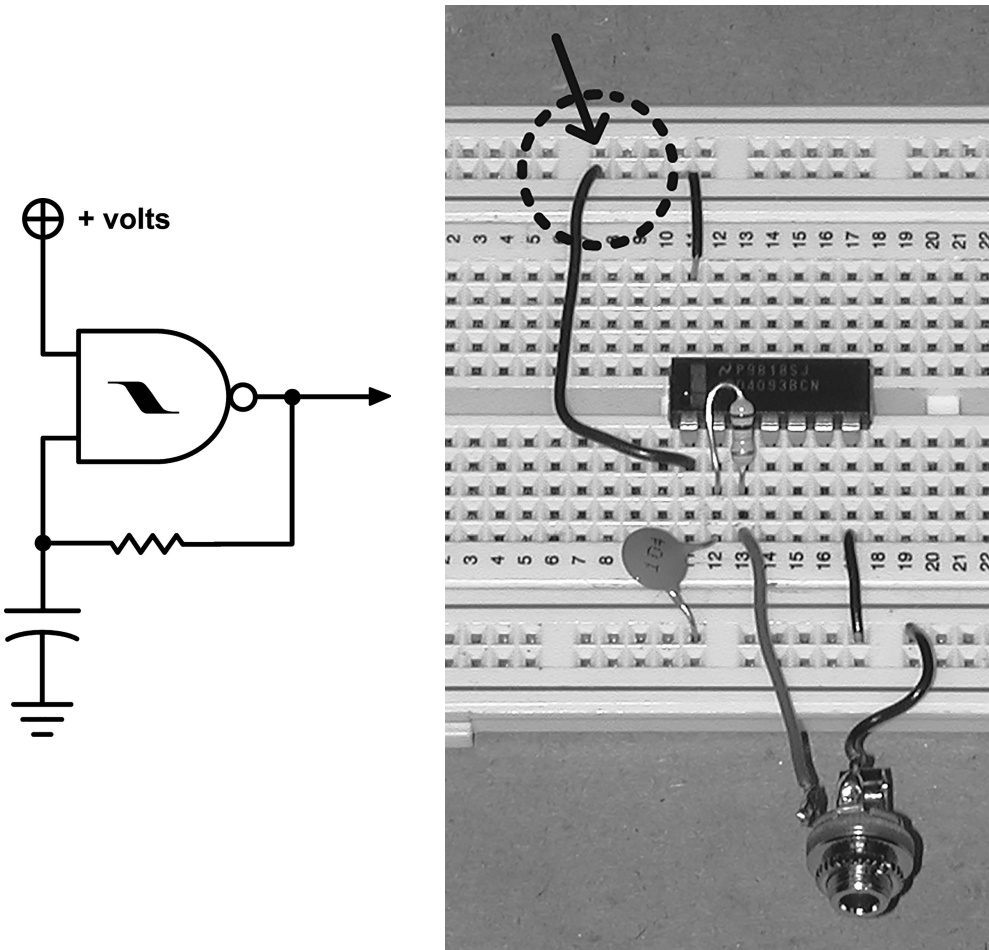

Figure 15.2 Basic NAND oscillator, enabled.
Breadboard the circuit shown in Figure 15.2. Note that the basic design has similarities to our earlier oscillator: a capacitor between an input and ground; a feedback resistor from the output back to that input. But where each stage in the hex inverter package had one input, each NAND gate has *two* inputs. Because of the combinatorial logic of the NAND gate (explained prior), the second input of the gate can be used as a *control* input to turn the oscillator on and off: the output of the circuit will only change state (i.e., oscillate) when the control input is held “high” (+9 volts). If you connect the second input of the gate to ground (0) the circuit stops oscillating and the output remains in a “1” state (Figure 15.3), silent.
Try both configurations to confirm the logic. Plug a bit of wire into the breadboard near the gate input (pin 1 in Figure 15.2 and Figure 15.3) and connect the other end first to the + bus and then to the ground.
The control input on Oscillator 1 (pin 1) is tied directly to +9 volts, so it runs all the time, as we demonstrated earlier in Figure 15.2. But the control input of Oscillator 2 (pin 6) is connected to the output of Oscillator 1 (pin 3), which gates Oscillator 2 on and off as it swings between 9 volts and ground. If Oscillator 1 (the control oscillator) has a large capacitor and runs slowly (like a metronome), you can hear Oscillator 2 (the modulated oscillator) switch on and off at a regular tempo. As we tune Oscillator 1 higher and higher, this obvious on/off function transforms into a kind of modulation that is heard as a change in the timbre rather than tempo.